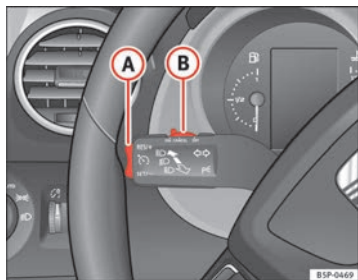

Fig. 150 Indicator and main beam headlight lever: switch and rocker switch for the cruise control
- Press the upper part **RES/+** of the rocker switch ⇒ fig. 150 **A** to increase the speed. The vehicle will continue to accelerate as long as you keep the rocker switch pressed. When you release the switch, the new speed is stored.
Control of the set speed is switched off if you reduce speed by depressing the brake pedal. You can reactivate the control by pressing once on the upper part of the rocker switch **RES/+** ⇒ fig. 150 **A**.